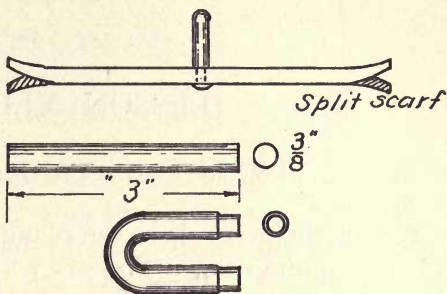

FIG. 210. — IRONS FOR RING AND STAPLE OF CLIP.
staple to keep the hook on the ring. When it is riveted in place, the hook must be inside the staple. Punch two holes 1" apart and in the middle of the length, then lay aside until the other two pieces are prepared. (Fig. 210.)
4. The staple is simply tapered at each end down to $\frac{1}{4}$ " diameter, but not to a point, and bent as shown in Fig. 210.